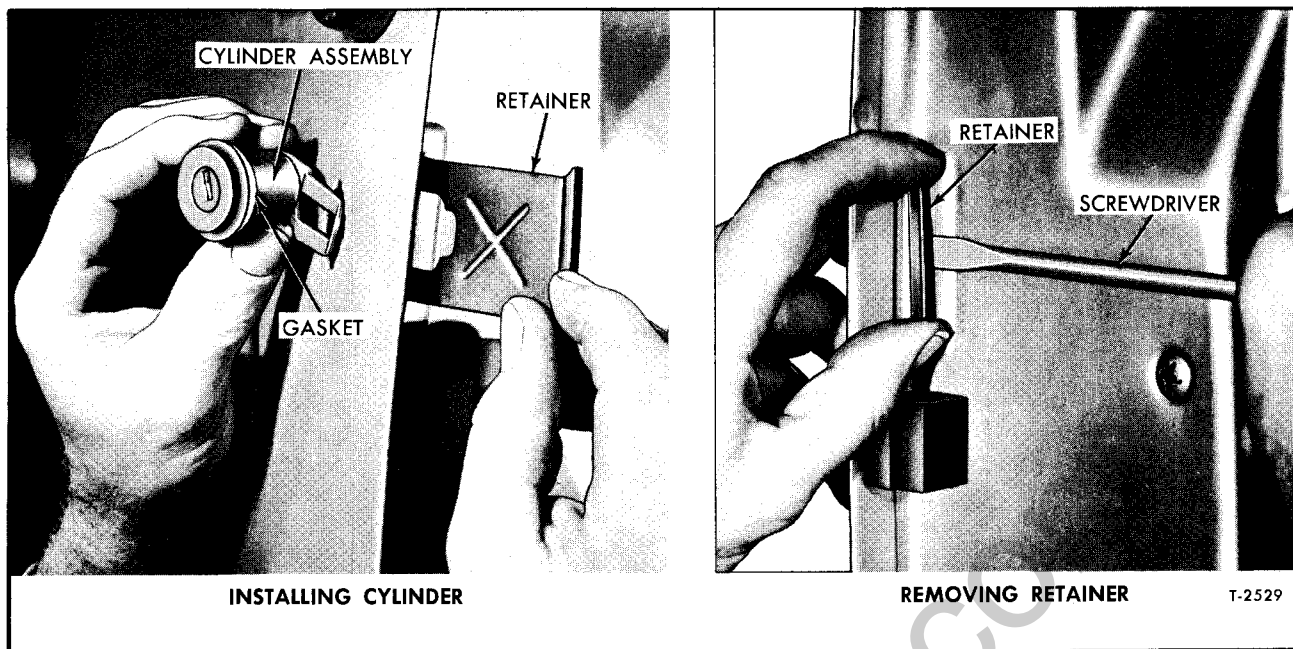

Figure 18—Door Lock Assembly Replacement
(Refer to Figure 18)
1. Using flat blade screwdriver, pry retainer from edge of door as shown in figure 18.